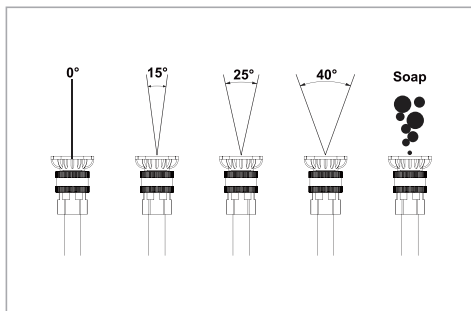

Fig 11
2. Select a spray nozzle according to your cleaning needs. Fig 11